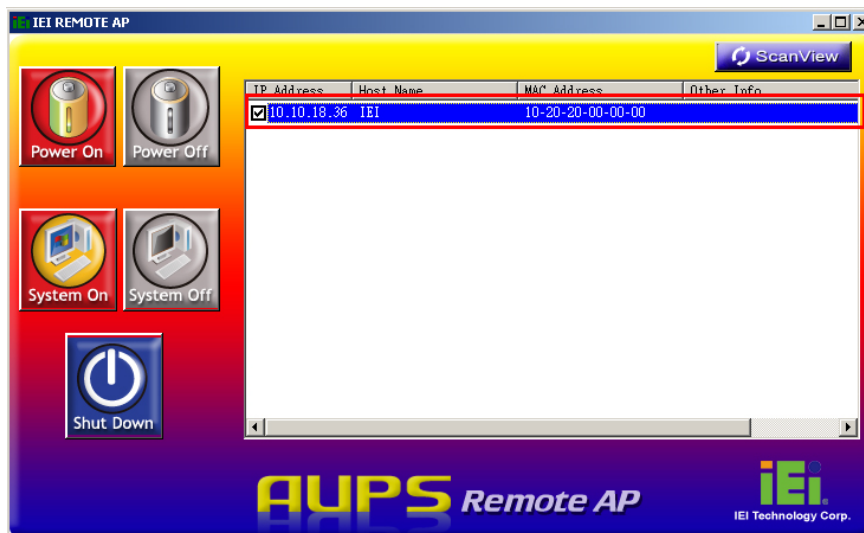

Figure 8-17: IEI REMOTE AP – IP Address
Step 4: To access the web interface for advanced monitoring and functions, double click the IP address of the connected eKINO-945GSE (Figure 8-17).